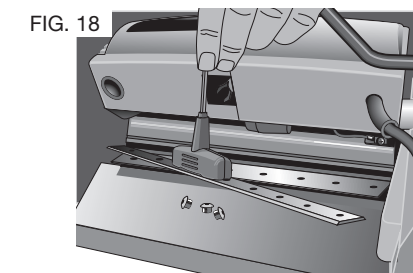

FIG. 18
3. Use the magnets on the top of the T-wrench to attract the knife clamp and lift the knife off the cutter head (Fig. 18). One of the knives should now be exposed.